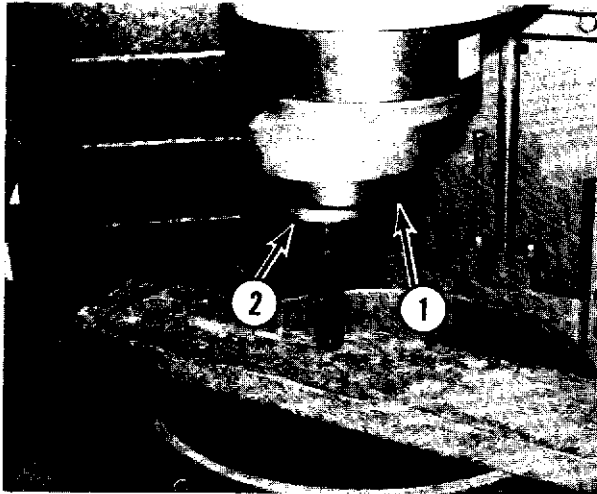

Fig. 10-3
- D. If V-1401, remove the bearing plate cover (1, Fig. 10-3).
- E. If V-1401, remove the six hex head bolts and remove the bearing plate (2, Fig. 10-3).
- G. Raise the bowl to support the weight of the planetary (Fig. 10-3).